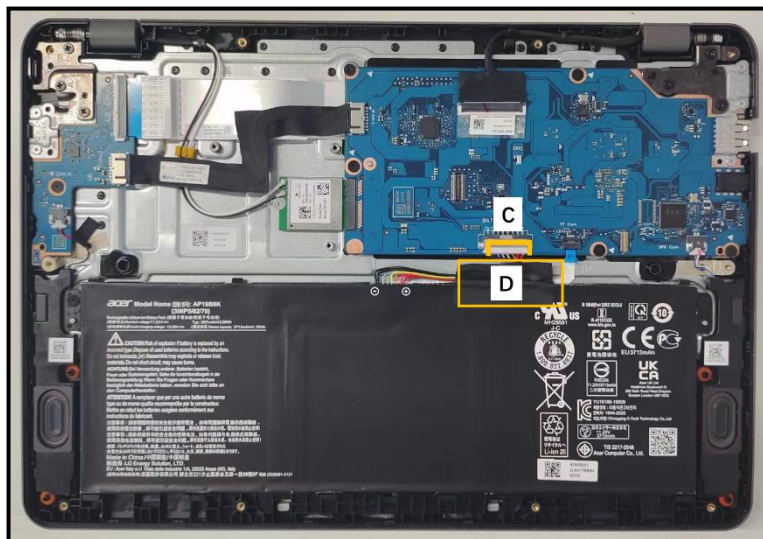

Figure 3-7. Battery Pack Removal
3. Disconnect the battery cable from the mainboard connector (C) (Figure 3-7).
4. Detach the transparent mylar (D) securing the battery cable (Figure 3-7).